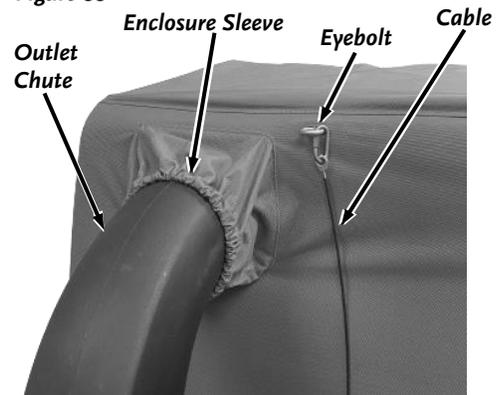

Figure 89
4. Unhitch the Cable Link from the Enclosure eyebolt (**Figure 89**).